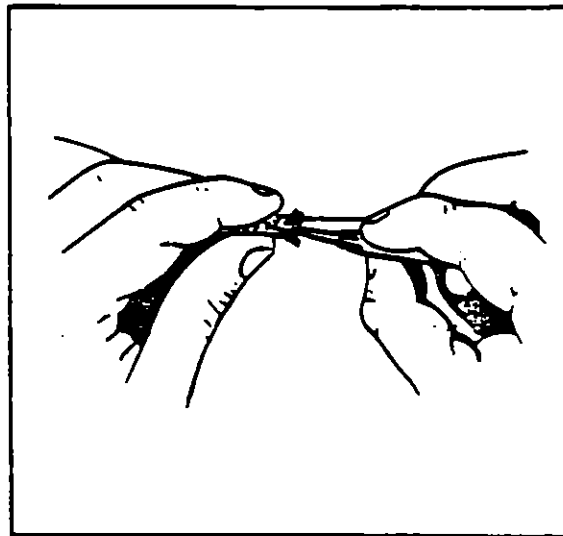

Figure 8-19. Unbraiding Metallic Shielding
9. Using a scribe or similar pointed tool, unraid 3/8 inch of braided shielding. (Refer to Figure 8-19.) Wrap a single thickness of electrical tape around unbraided strands to facilitate insertion of lead end thru hole in cable